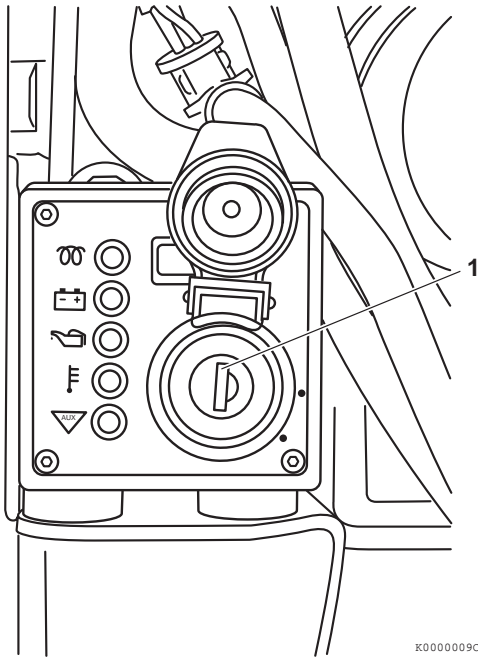
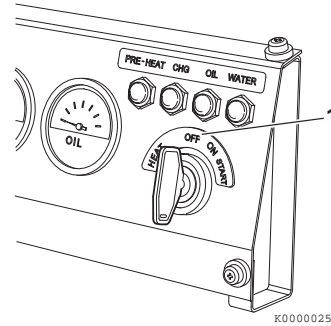

Figure 7
Figure 8
4. Turn the key to the OFF position (**Figure 7, (1)**) or (**Figure 8, (1)**) and remove it from the key switch.